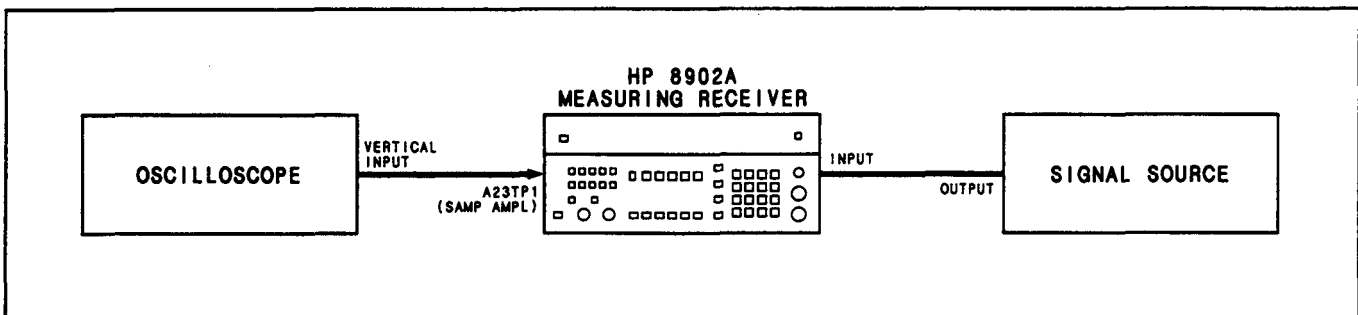

Figure 5–2. Sampler Efficiency and Offset Adjustment Test Setup
2. Connect the equipment as shown in Figure 5–2. (The oscilloscope input should be ac coupled. The signal source can be connected either to a sensor module or directly the the Measuring Receiver's INPUT.)